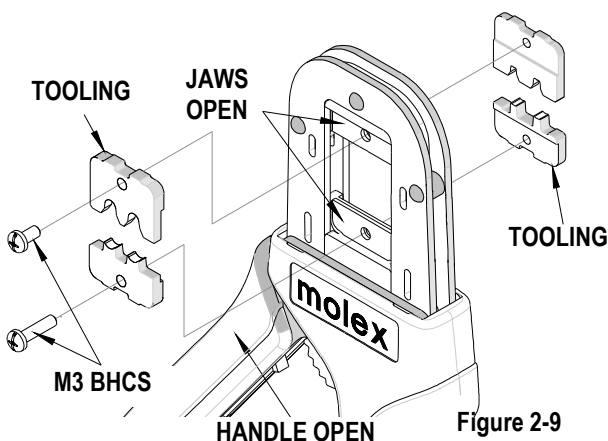

Figure 2-9
3. Remove the crimp dies as shown in Figure 2-9.